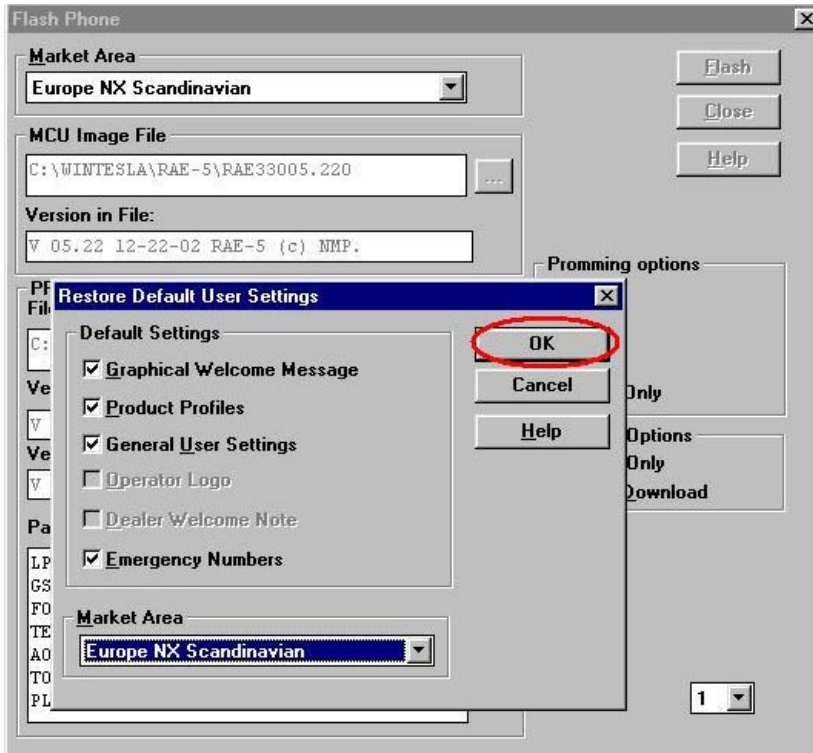

Figure 10. Restoring Default User settings
12. If you have selected NO to answer the previous question in step 10 the user settings will be updated after flash programming . Press the OK button (see Figure 10 .)